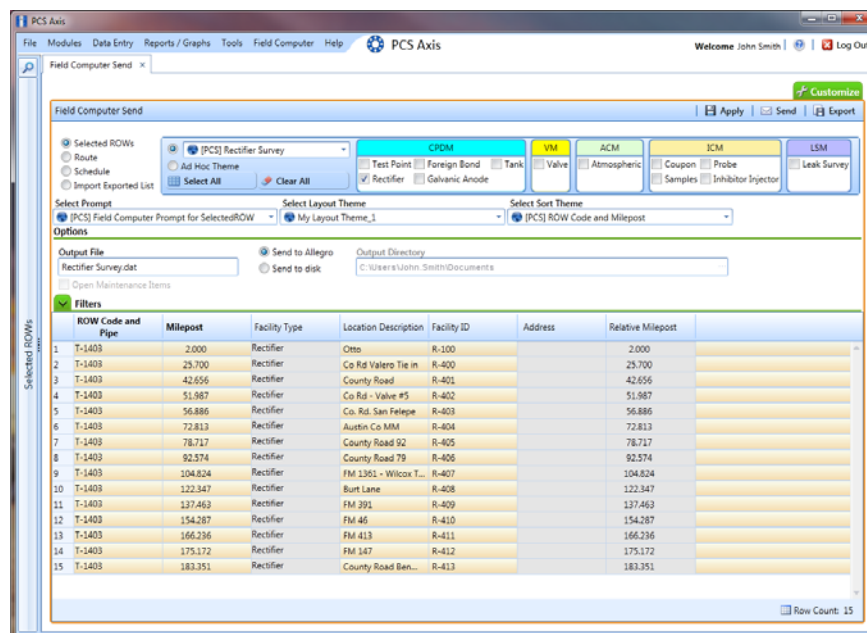

Figure 12-27. Select Layout Theme
- 14 To apply the new layout theme to the grid, click the down arrow in the field **Select Layout Theme** and select the layout theme in the selection list. Then click  **Apply** to update the grid (Figure 12-27).